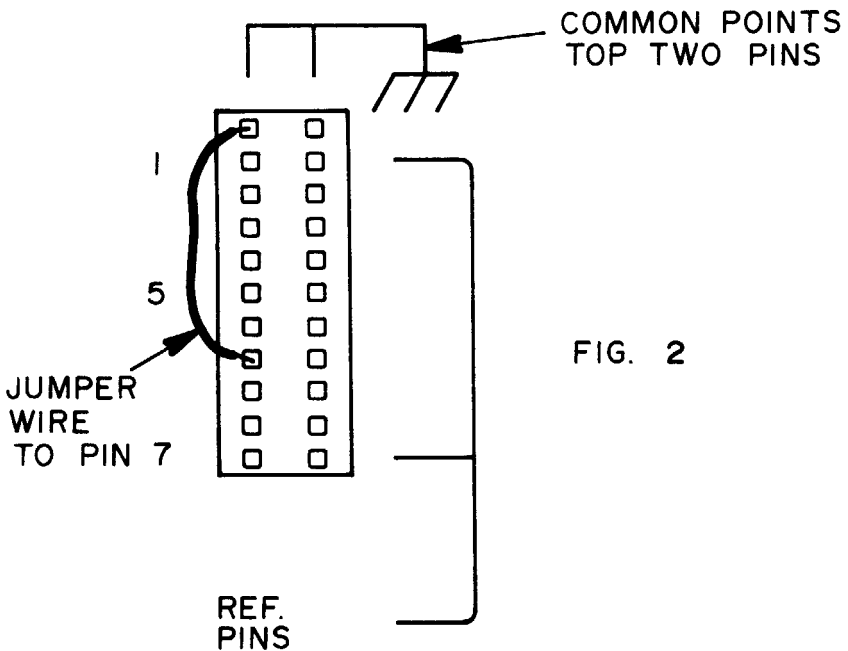

FIG. 2
3. Select reference point. Jumper the common point to the desired pin of the reference pin select terminals. Use the short jumper wires to connect these points. (see fig. 2)